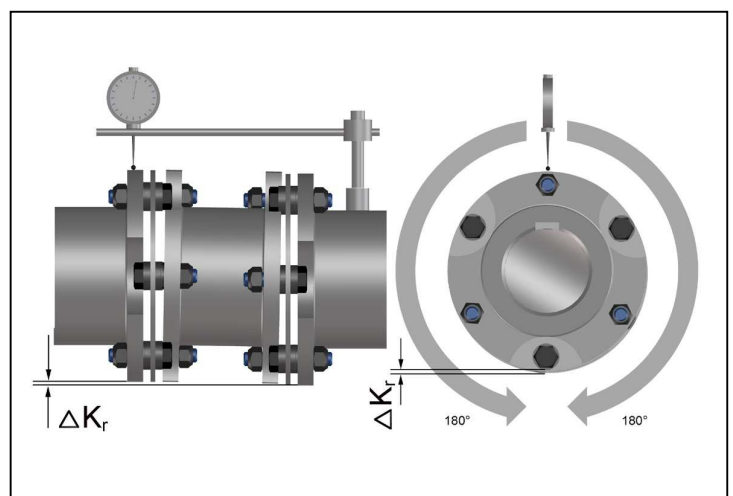

Fig. 9
- Measure one complete rotation (360°). Determine the largest deviation K_{r1} and the smallest deviation K_{r2} (Fig. 9). Calculate the radial misalignment $\Delta K_r = 0,5 \times (K_{r1} - K_{r2})$. Observe the preceding sign of the measured values.